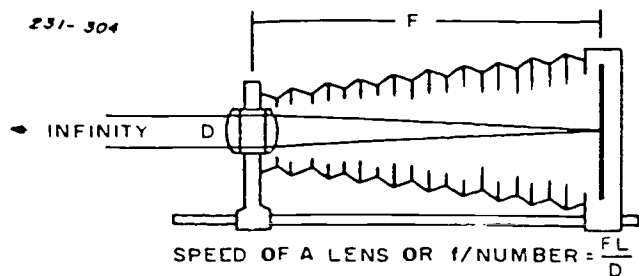

Figure 4-2. The  $f/\text{number}$  of a lens.
**Lens Speed.** You may have heard photographers talking about slow and fast lenses. You have probably guessed that this doesn't mean the lenses are on the track team. It means that a fast lens has a bigger maximum aperture than a slow lens as shown in figure 4-2.